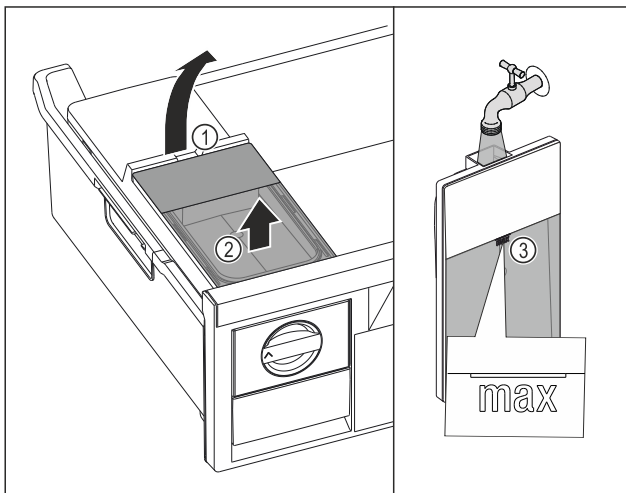

Fig. 151
- ▶ Lift the water tank at the recess Fig. 151 (1).
- ▶ Remove the water tank by lifting it upwards. Fig. 151 (2)
- ▶ Fill the water tank with drinking water up to the mark Fig. 151 (3).